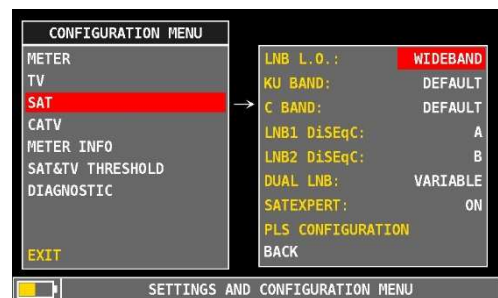

Fig.7 Wide band setup in the configuration menu.
- If the logger is run when connected to a Wide Band LNB, the LNB setting of the meter must be on Wide Band. Press the “Volume” key to access the configuration menu and select **SAT**, set the “LNB L.O.” to “WIDEBAND”, (ref. fig. 7 ). Set the “SOTP&GO” logger entry to “TV&WbandLNB” (ref. fig.4). Then follow the instructions the meter will display.